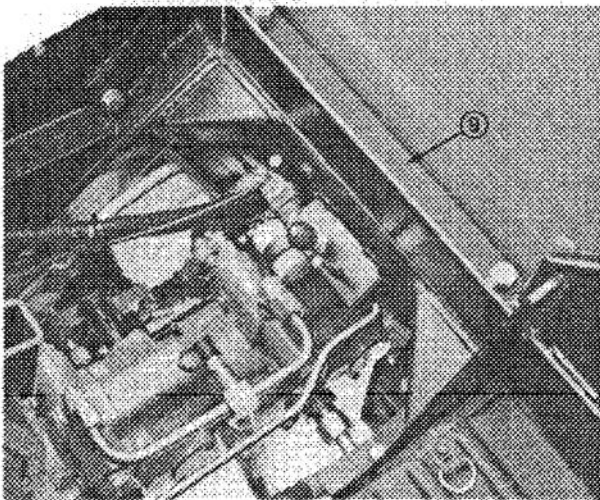

Figure 9
2. Lower roll bar onto frame, aligning mounting holes as shown in fig. 9.
3. Secure each side of roll bar to frame with a $1/2 \times 13 - 3/4$ " lg. capscREW and lockwasher. Secure back of roll bar to frame with (2) $1/2 \times 13 - 6 - 1/2$ " lg. capscREWS, flatwashers ($1 - 1/8$ " O.D.) and $1/2 - 13$ locknuts. Tighten all fasteners securely.